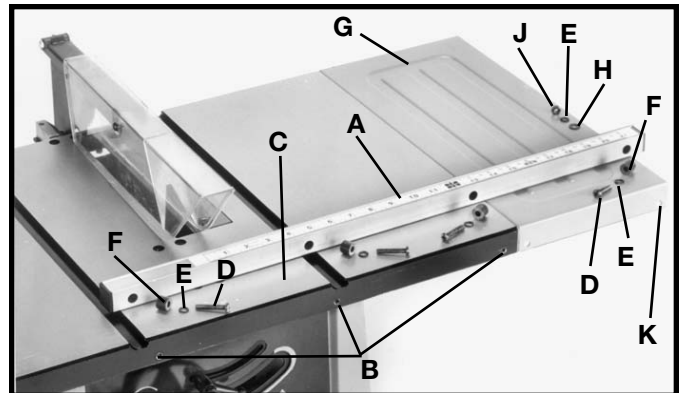

Fig. 20
1. Loosely fasten guide rail (A) Fig. 20, to three threaded holes (B) in saw table (C) using three 1/4-20 x 1-1/4" long screws (D), 1/4" lockwashers (E), and spacers (F). **IMPORTANT: Spacers (F) Fig. 20, are positioned between guide rail (A) and saw table (C).**
2. Fasten guide rail (A) Fig. 20, to extension wing (G) through hole (K) using the 1/4-20 x 1-1/4" long screw (D), 1/4" lockwasher (E), spacer (F), 1/4" flat washer (H), 1/4" lockwasher (E), and 1/4-20 hex nut (J). Then tighten all guide rail mounting hardware. **IMPORTANT: Spacers (F) Fig. 20, are positioned between guide rail (A) and extension wing (G).**